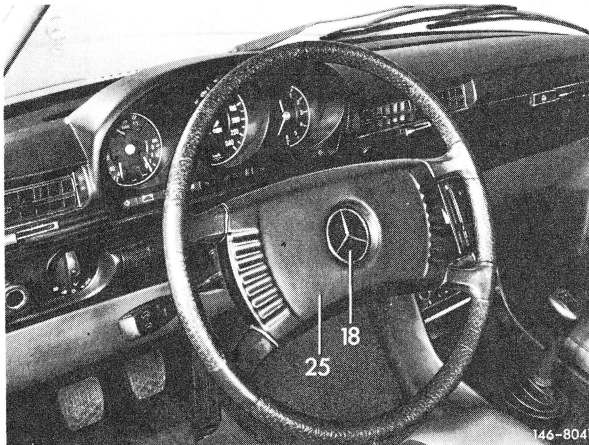

Fig. 1
1 Pull-off padded plate (25) from horn bracket in upward direction. Pulling is done best at one corner of padded plate in range of one of the two steering wheel spokes (Fig. 1).